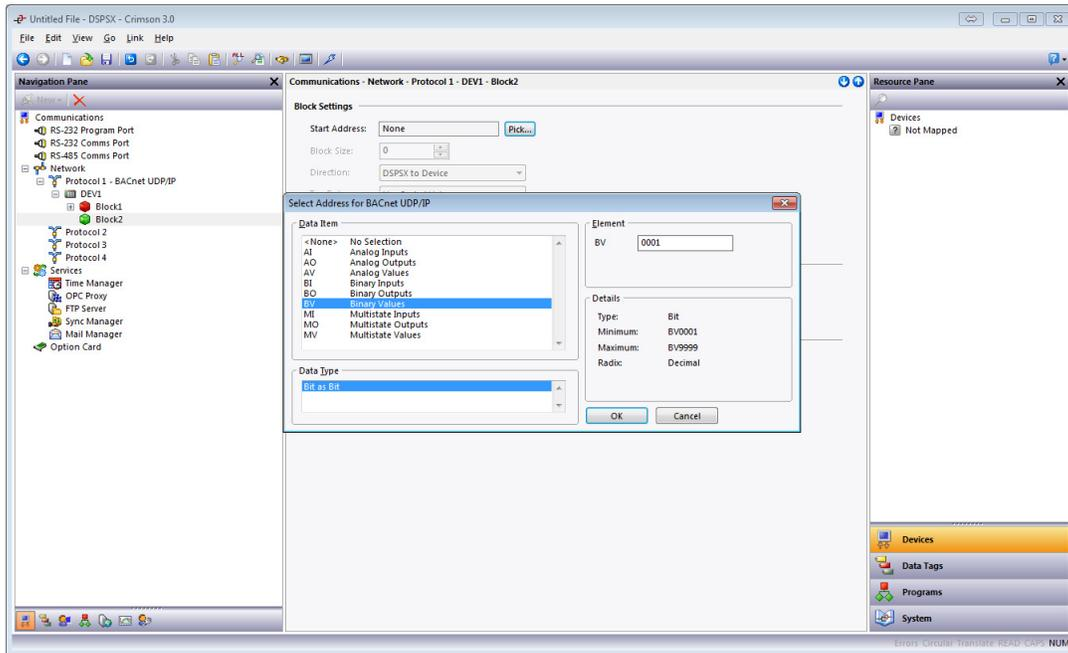

Figure 19.
20. Referring to Figure 19, click the *Pick* button next to the *Start Address* : field; the *Select Address for BACnet UDP/IP* popup appears.